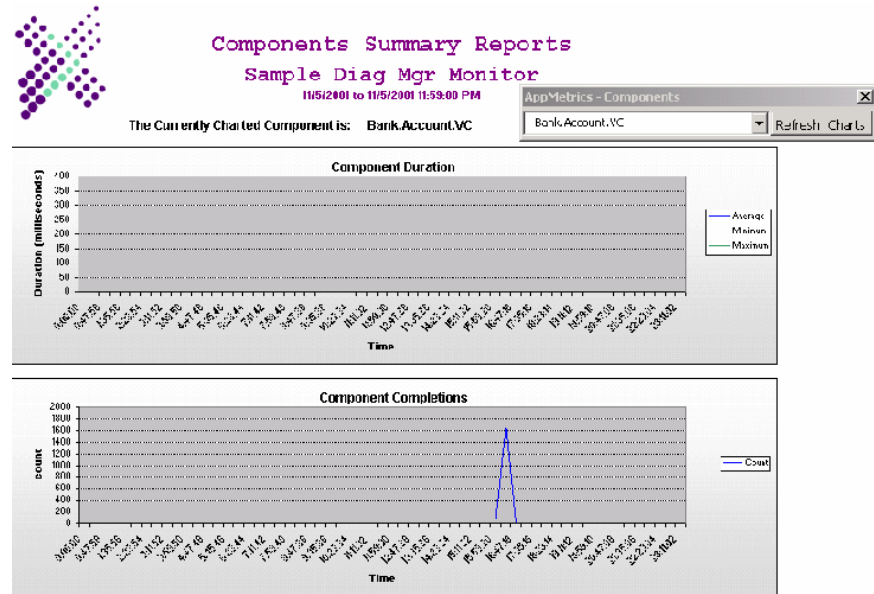

Figure 20
11. The next report to view in our Diagnostics Monitor is the **Components Report** (see Figure 20).